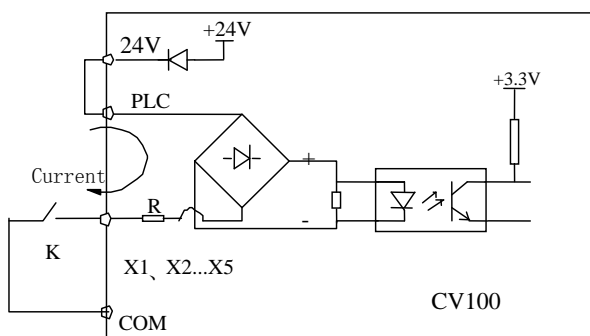

Fig.4-7 Wiring method of using the internal 24V power supply
CV100 multi-function input terminal uses a full-bridge rectifying circuit as shown in Fig.4-7. PLC is the common terminal of terminals X1~X5, The current flows through terminal PLC can be pulling current and the feeding current. Wiring of X1~X5 is flexible and the typical wiring are as follows:
1) Analog differential voltage input, the wiring is as in fig.4-7.